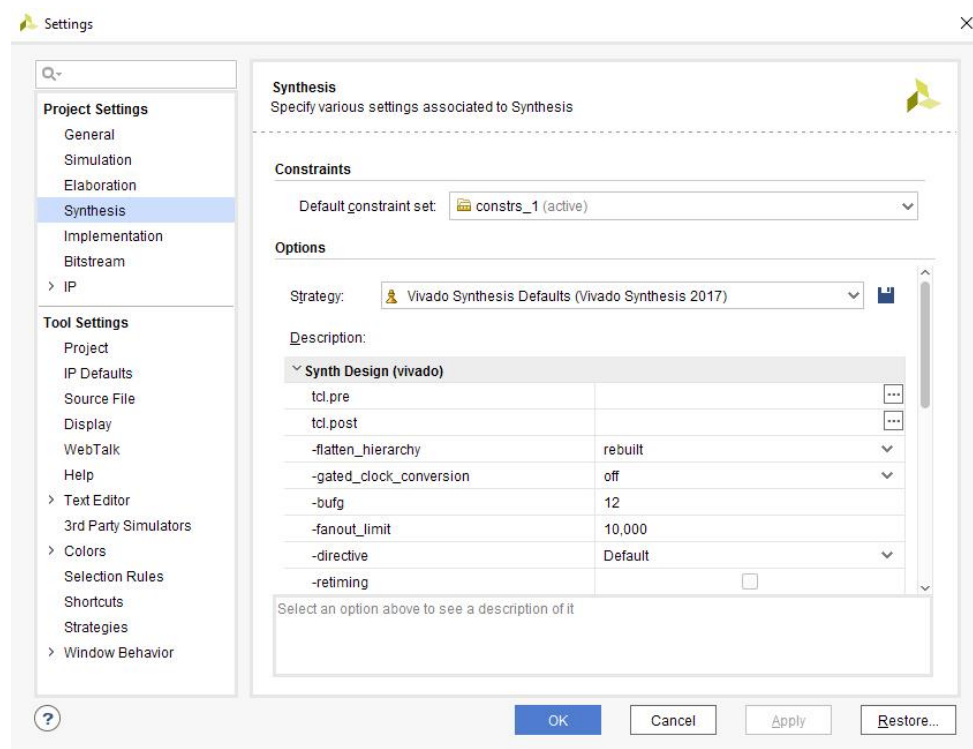

Figure 15
6. This allows us to view the full set of process properties available (Figure 15)